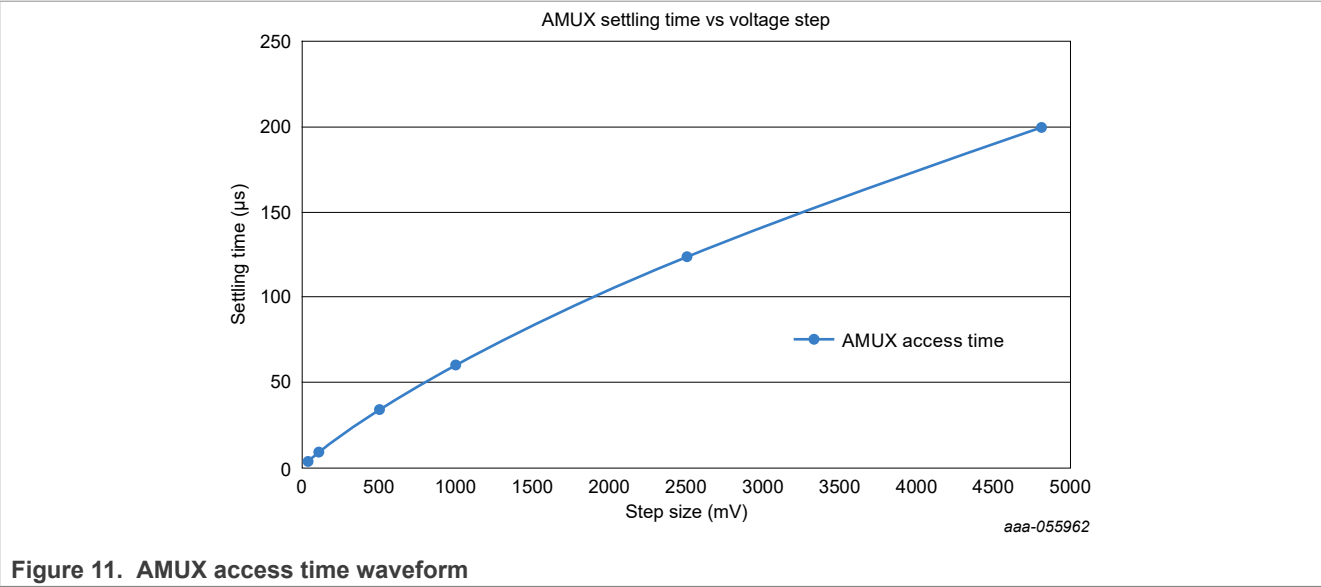

Figure 11. AMUX access time waveform
2. AMUX settling time to be within the 10 mV offset specification. $AMUX_{VALID}$ is dependent of the voltage step applied on the input SGx/SPx pin or the difference between the first and second channel selected as the multiplexed analog output. See Figure 11 for a typical AMUX access time VS voltage step waveform.